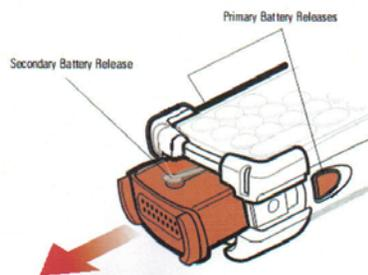

Figure 8-17
- 8.7.2 Simultaneously press both primary battery releases. The battery partially ejects from the scanner. Pause 3-4 seconds while the scanner performs battery removal shutdown as shown in Figure 8-17.
- 8.7.3 Press secondary battery release, on top of the battery, and slide the battery out of the scanner as shown in Figure 8-17.